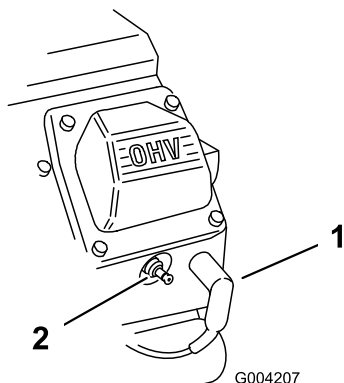

Figure 49
2. Pull the wires off of the spark plugs (Figure 49).
3. Push the wires onto the spark plugs (Figure 49).